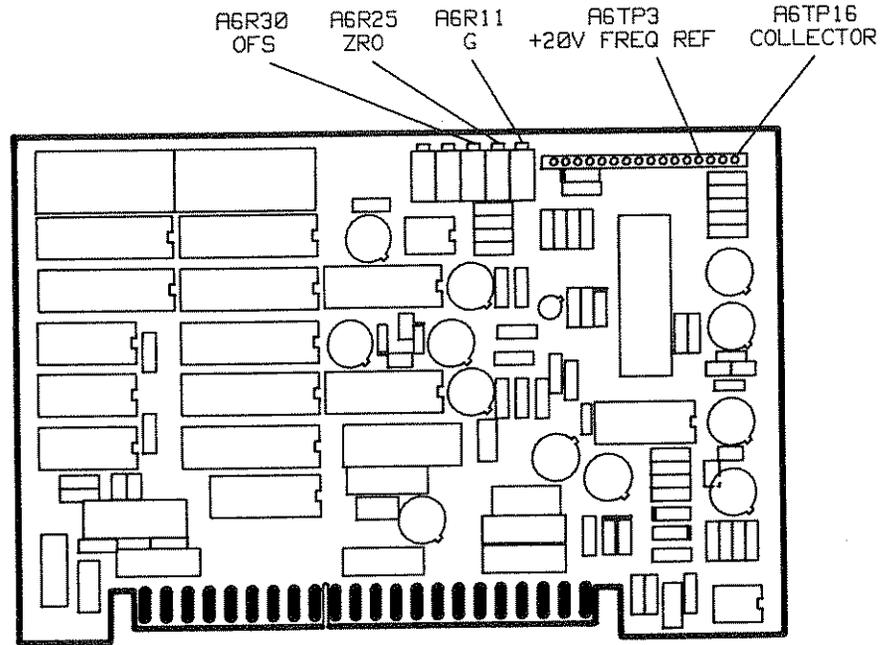

Figure 5-7. YO Driver Adjustments Location
2. Float ground on DVM and connect DVM LO to A6TP13 (+ 20V FREQ REF). Connect DVM HI to A6TP16 (COLLECTOR). Refer to Figure 5-7.